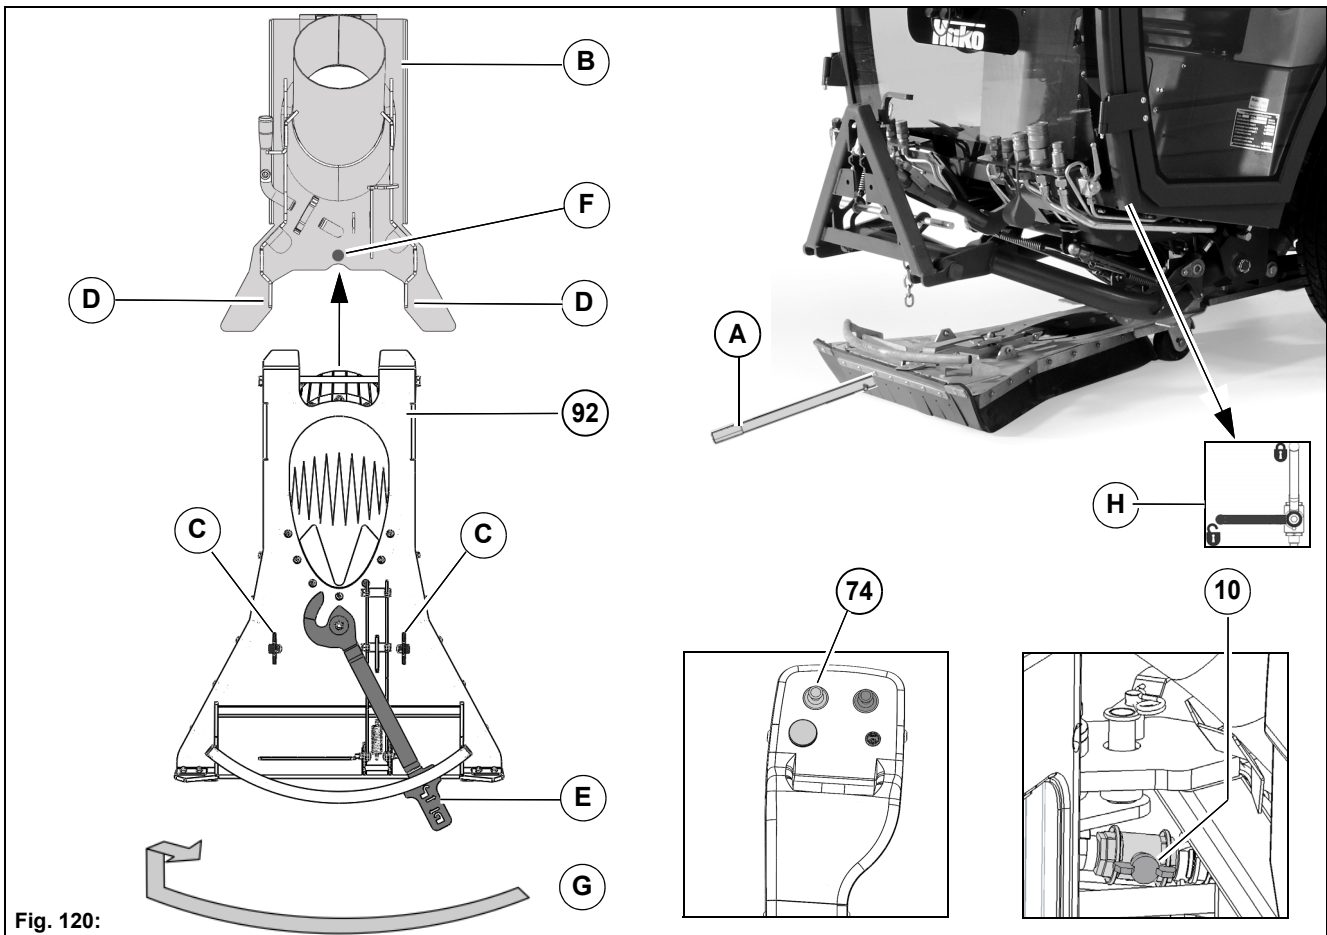

Fig. 120:
3. Position the suction mouth **Fig. 120-92** by hand or with the auxiliary tool **Fig. 120-A** centrally under the holding plate **Fig. 120-B**.
4. Open the valve **Fig. 120-H**. Push the joystick **Fig. 120-74** forwards. When the valve is open, the holding plate is lowered onto the suction mouth.
5. Shift the suction mouth centrally under the holding plate until the stops **Fig. 120-C** come up to the points **Fig. 120-D**.
6. With the lever **Fig. 120-E** lock and secure the suction mouth on the counter bearing **Fig. 120-F** of the holding plate, see sketch **Fig. 120-G**.